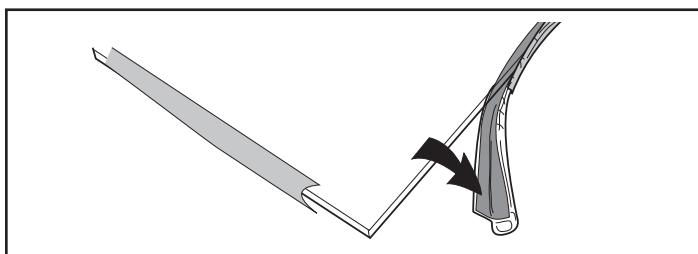

Figure 7.2 - Wrap the gasket material around the outside edge of the glass.
3. Starting on a long edge, remove about 6" of the protective paper strip and apply the flat adhesive face of the gasket around the outside-facing edge of the panel. Continue around the panel, applying about 6" at a time and being careful to not stretch the material. Do not overlap the gasket ends, Figure 7.2.